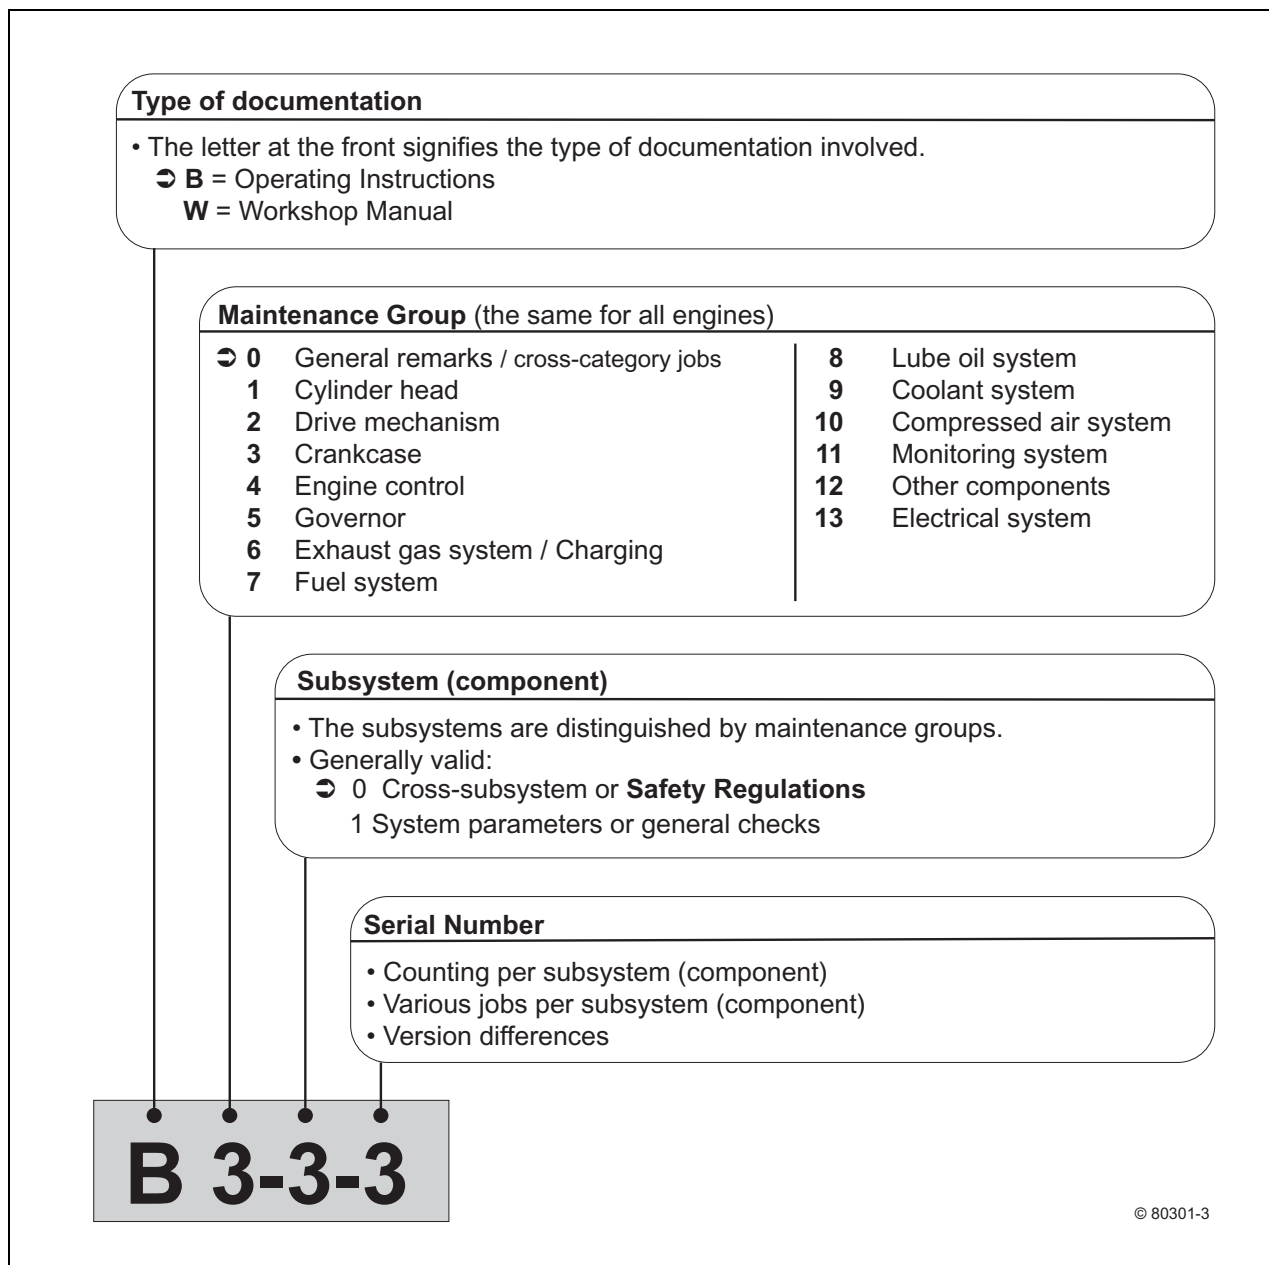

Figure 1-1 Numbering of the job cards
- Please see Figure 1-1 for explanations of the numbering.